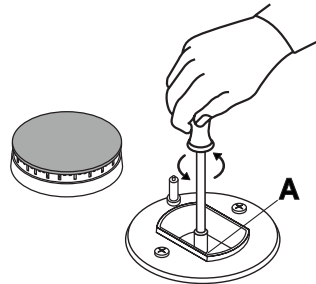

fig.9
- Unscrew the nozzles "A" (fig.9) using a 7 mm socket wrench and replace them with the ones which have a diameter suitable for the type of gas to be used, according to the table 1 "burners and nozzles specifications".